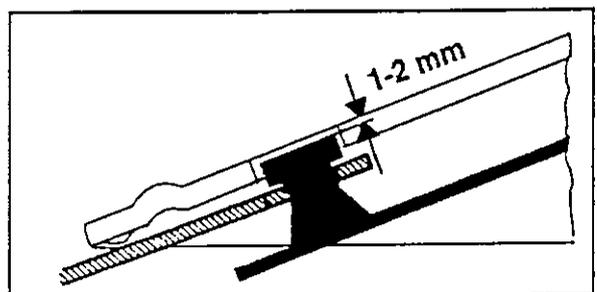

fig. 4-43
*A blade is not correctly attached unless the mounting pin head occupies all but the top 1-2 mm of the hole in the blade (fig. 4-43). No wear must be visible on the head (see also page 4-10).*